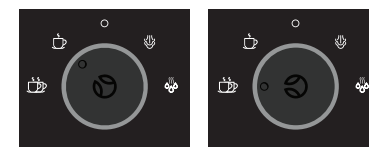

Fig. 7
- a. Rotate the Dynamic Control Dial to the Single Shot or Double Shot Functions (see Figure 7).